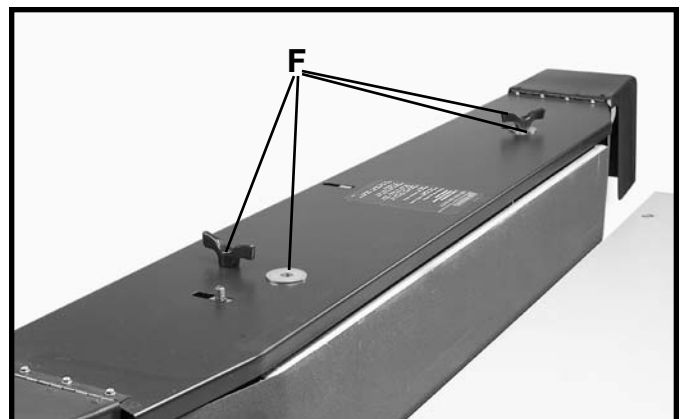

Fig. 10
4. After the top guard and dust chute assembly is assembled correctly, fasten with two 1/2" flatwashers and wing knobs (F) Fig. 10.